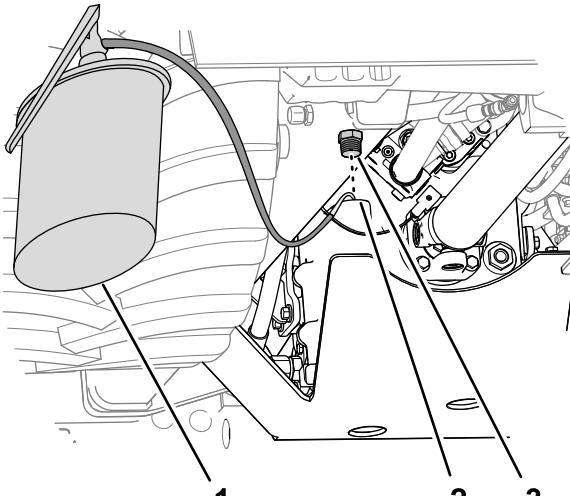

Figure 101
4. Fill the transmission with the specified oil through the fill port (Figure 101).